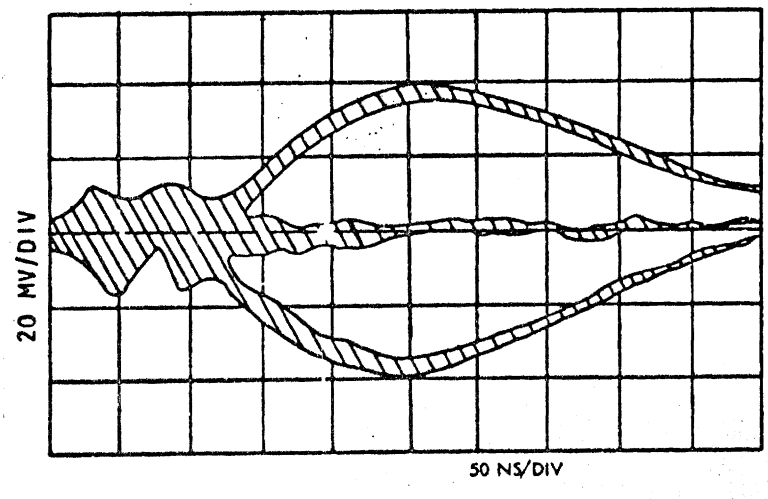

FIGURE 5
C. ADJUST SCOPE SO THAT THE AVERAGE PEAK OF ONES ENVELOPE AT READ TIME IS AT THE CENTER VERTICAL LINE OF THE SCREEN (FIGURE 5)